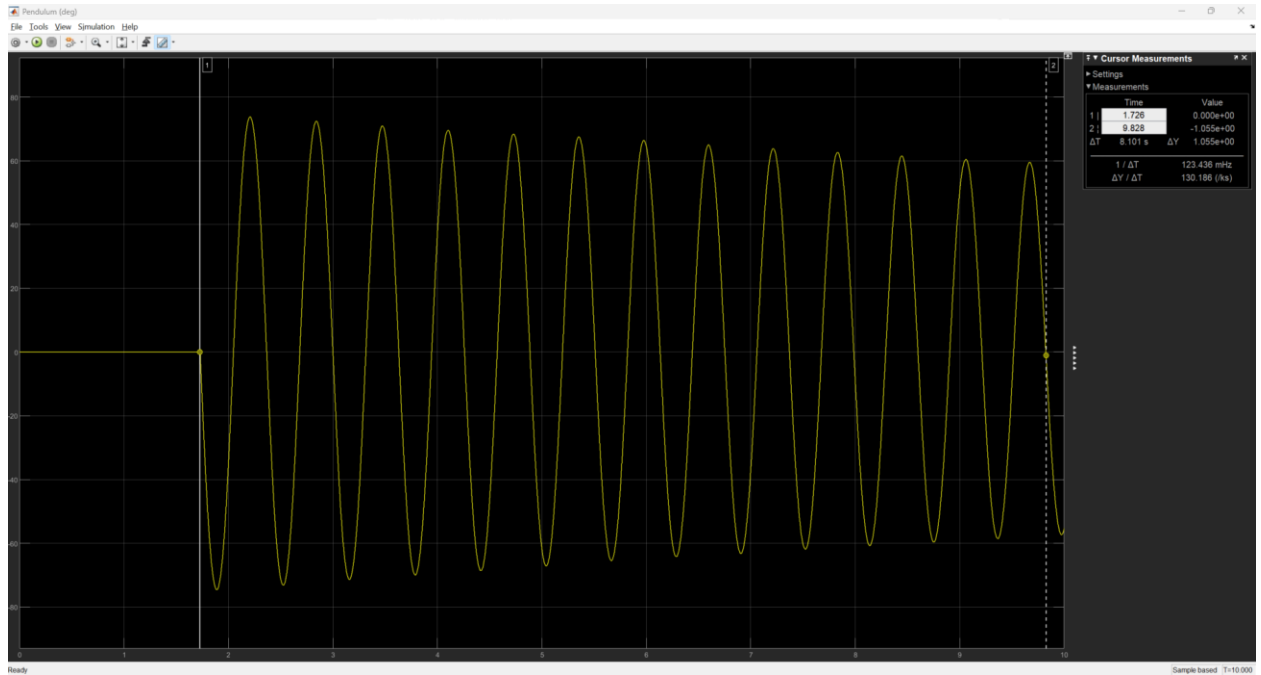

Figure 4: Sample response of perturbed pendulum.
20. Measure the number of cycles (n_{cyc}) and the duration of the cycles (Δt) from the pendulum position scope. Your response should look similar to Figure 4: